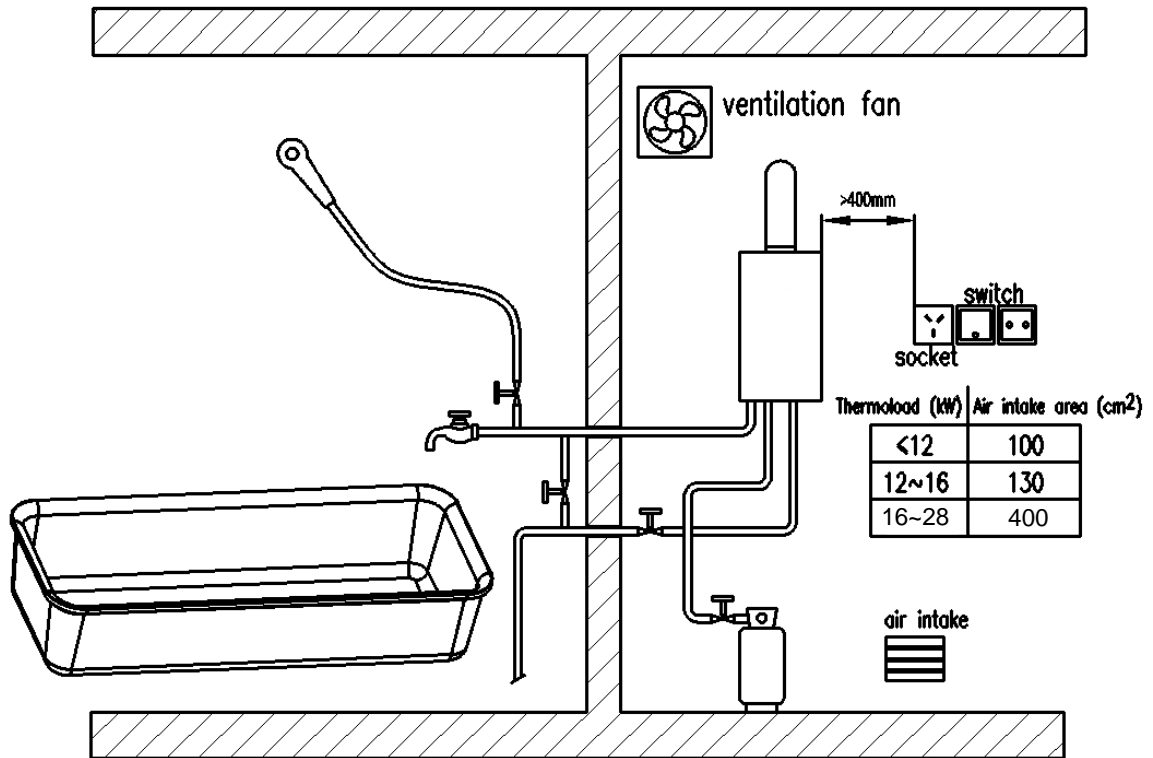

Fig.2
- Do not install the appliance in bedroom, basement, bathroom, or rooms with bad ventilation condition. The room for installation shall be well ventilated. A ventilation hole as well as an air intake hole which connects to the outside must be drilled in the wall, and the size of the hole must be no less than the table in Fig.2. The ventilation fan, if there is one, shall be installed over the appliance, and the air intake hole level should be lower than the appliance. The appliance must be kept at least 400mm far from electricity (Fig.2), and neither line or electric equipment could be put over the appliance.